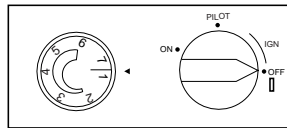

Figure 20 - Dual Control for Thermostat Models FAS-3C and FAS-5C
- Push in control knob slightly and turn clockwise to the OFF position. Be sure that the temperature setting knob is set at the line between level 1 and level 7 (see Figure 20).
- Push in and turn control knob counterclockwise to PILOT position. Press in control knob for five (5) seconds.
- Press in control knob and turn counterclockwise past IGN to PILOT (see Figure 20). This will cause the piezo ignitor to spark and light the pilot gas. Keep control knob depressed for 10 seconds before releasing. If needed, repeat steps 5 through 7 until pilot lights.